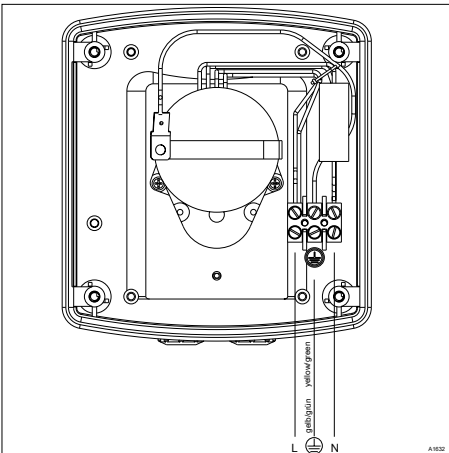

Fig. 7: Terminal diagram
- 7.** ➤ Connect the mains cable accordingly, see Fig. 7 (protective conductor connection)